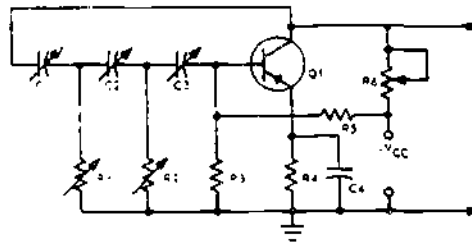

Figure 6
For questions 1 and 2, match the schematic diagram (Figure 6 and 7) to the names of oscillators.
For questions 3 thru 6 refer to Figure 6.
1. Figure 6